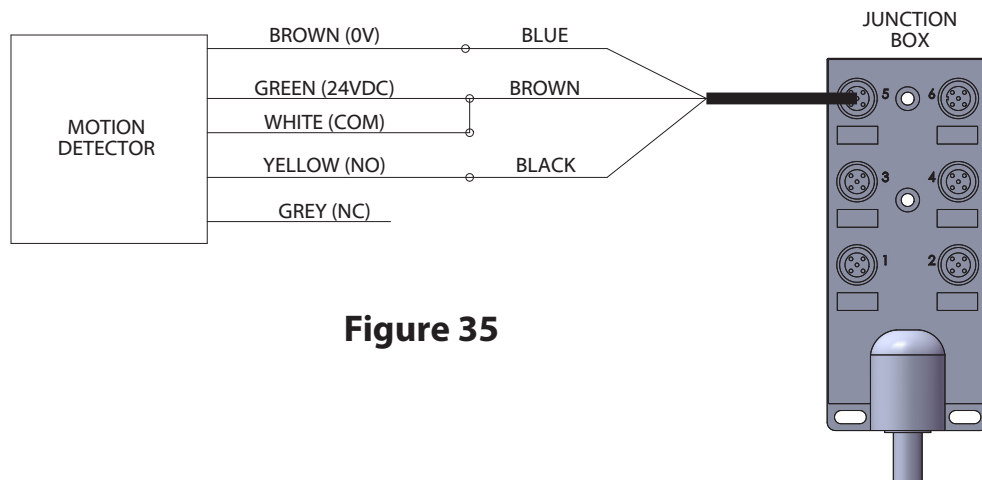

Figure 35
- Install wiring, per wiring diagram, see Figure 35 on page 28.
- Wire the supplied cables from the junction box to the optional equipment, as shown in Figure 35, and Figure 36.